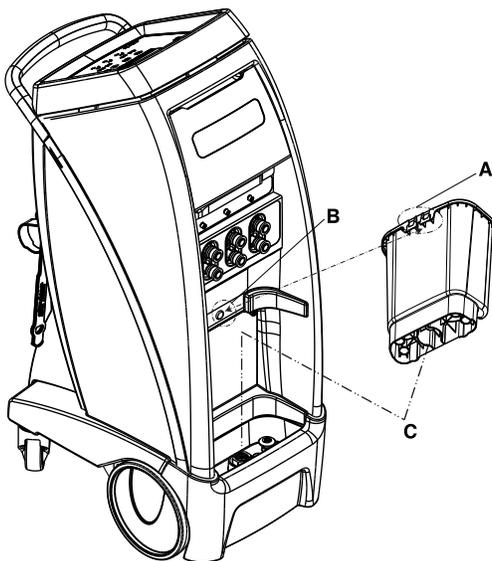

Figure 15: Removable reservoir
To remove the reservoir, pull forward at an angle, and lift out the reservoir (Figure 15 on page 26).
1. To replace the reservoir, align the base of the reservoir over the drain (C).
2. Align the notch on the back of the reservoir (A) with the hook on the controller (B) (Figure 15 on page 26)